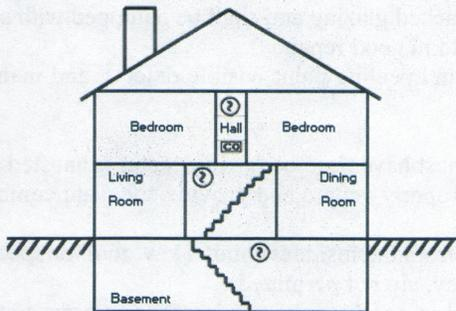

Figure 3: A smoke detector should be located on each story.
3. Basement detectors are to be located in close proximity to the bottom of the basement stairs (Figures 3 and 4).